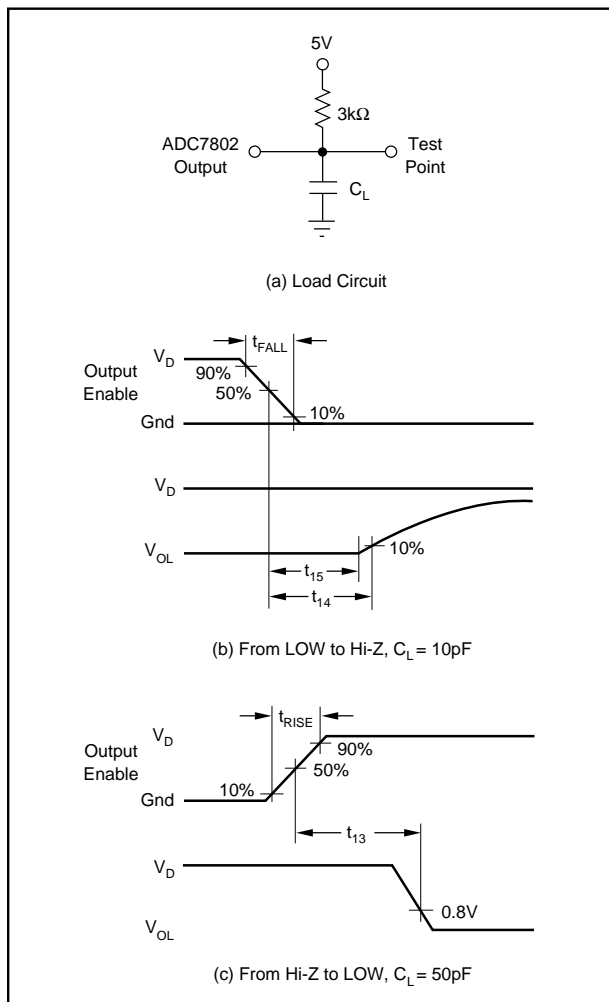

FIGURE 7. Measuring Active LOW to/from Hi-Z State.
NOTES: (1) All input control signals are specified with  $t_{\text{RISE}} = t_{\text{FALL}} = 20\text{ns}$  (10% to 90% of 5V) and timed from a voltage level of 1.6V. Data is timed from  $V_{\text{IH}}$ ,  $V_{\text{IL}}$ ,  $V_{\text{OH}}$  or  $V_{\text{OL}}$ . (2) The internal RD pulse is performed by a NOR wiring of  $\overline{\text{CS}}$  and RD. The internal WR pulse is performed by a NOR wiring of  $\overline{\text{CS}}$  and WR. (3) Figures 7 and 8 show the measurement circuits and pulse diagrams for testing transitions to and from Hi-Z states.